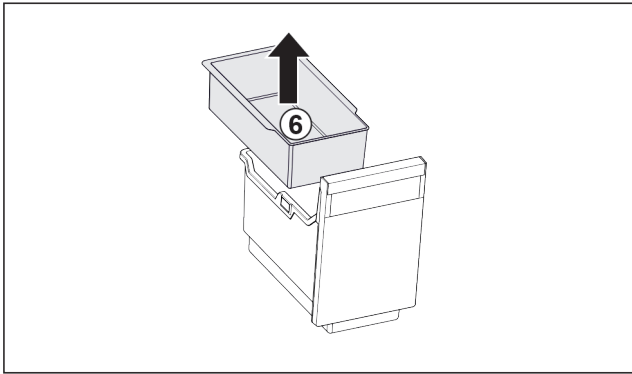

Fig. 105
- ▶ Remove the hang-on tray Fig. 105 (6).